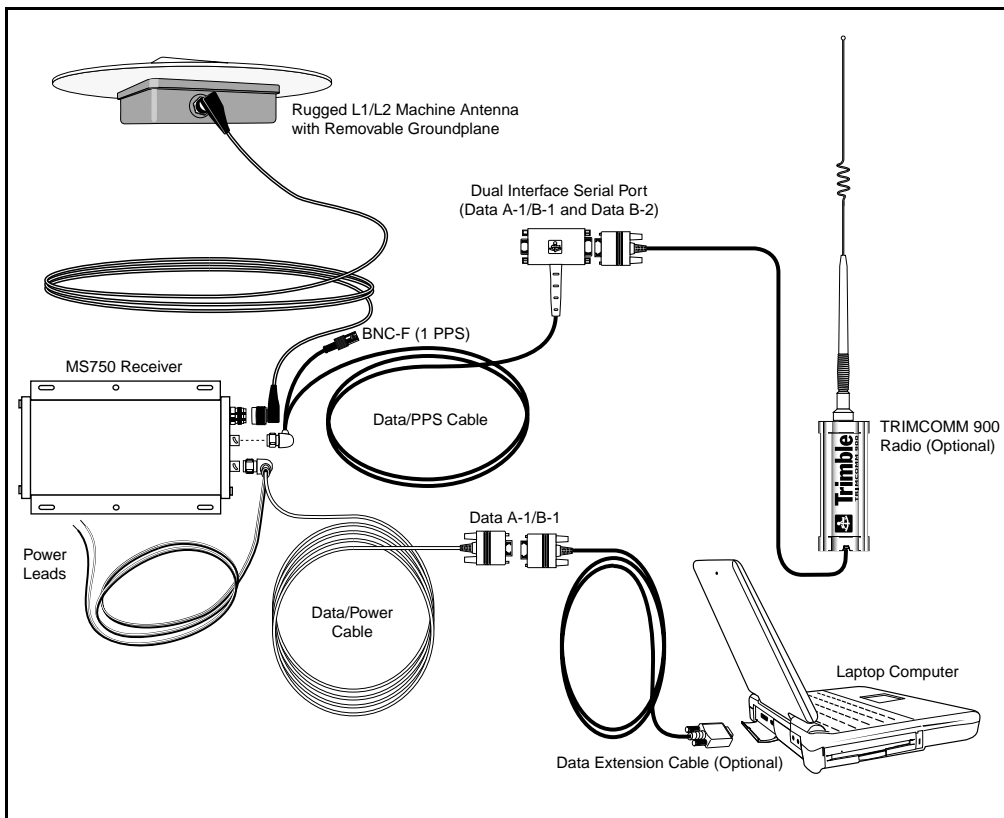

Figure 7-4 One Possible Cable Connection Scheme
After installing the MS750 antenna and receiver, connect and route the data/power and data/PPS cables. The MS750 receiver can be powered by a vehicle or customer-supplied 12-32 VDC switched power source. Once the receiver is installed and powered on, the front panel LCD screen light turns on. Figure 7-4 shows one possible scheme for connecting interface devices and peripherals to the MS750 receiver.
The data/power 12/24 VDC cable (P/N 30945) features power leads for connecting a 12 VDC power source to the MS750 receiver and an RS-232 connector for connecting an external device to Serial Port A or Serial Port B-1. Figure 7-4 shows a laptop computer connected to Serial Port A. For cable pin-out information, see Data/Power Cable, page 7-71.
1. Connect the CONXALL right-angle connector to the connector labeled Port A or Port B on the MS750 receiver. Figure 7-4 shows the cable attached to the Port B connector.
2. Connect one or two (on Port B connector only) serial devices to the dual DB9 connector on the data/PPS cable. The DB9 connectors for the two serial ports are labeled 'Data A/B-1' and 'Data B-2'. Figure 7-4 shows a Trimble TRIMCOMM 900 radio connected to one of the DB9 connectors (for example, a source for differential data).